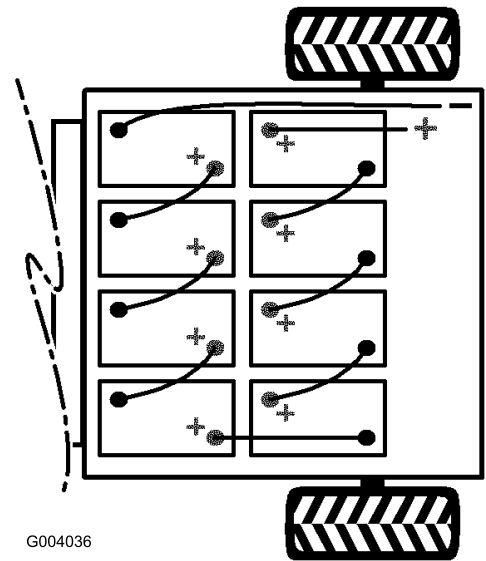

Figure 29
2. Disconnect the long, black, main negative lead running from the bank of batteries to the machine from the battery post (Figure 29).
3. Remove the long, red, main positive lead running from the bank of batteries to the machine from the battery post (Figure 29).
- Note:** Pay attention to the battery polarity when installing the new batteries (Figure 29).
9. Connect the batteries together with the battery cables removed previously, as shown in Figure 29.
10. Connect the long, red, main positive lead between the bank of batteries and the machine (Figure 29).
11. Connect the long, black, main negative lead between the bank of batteries and the machine (Figure 29).